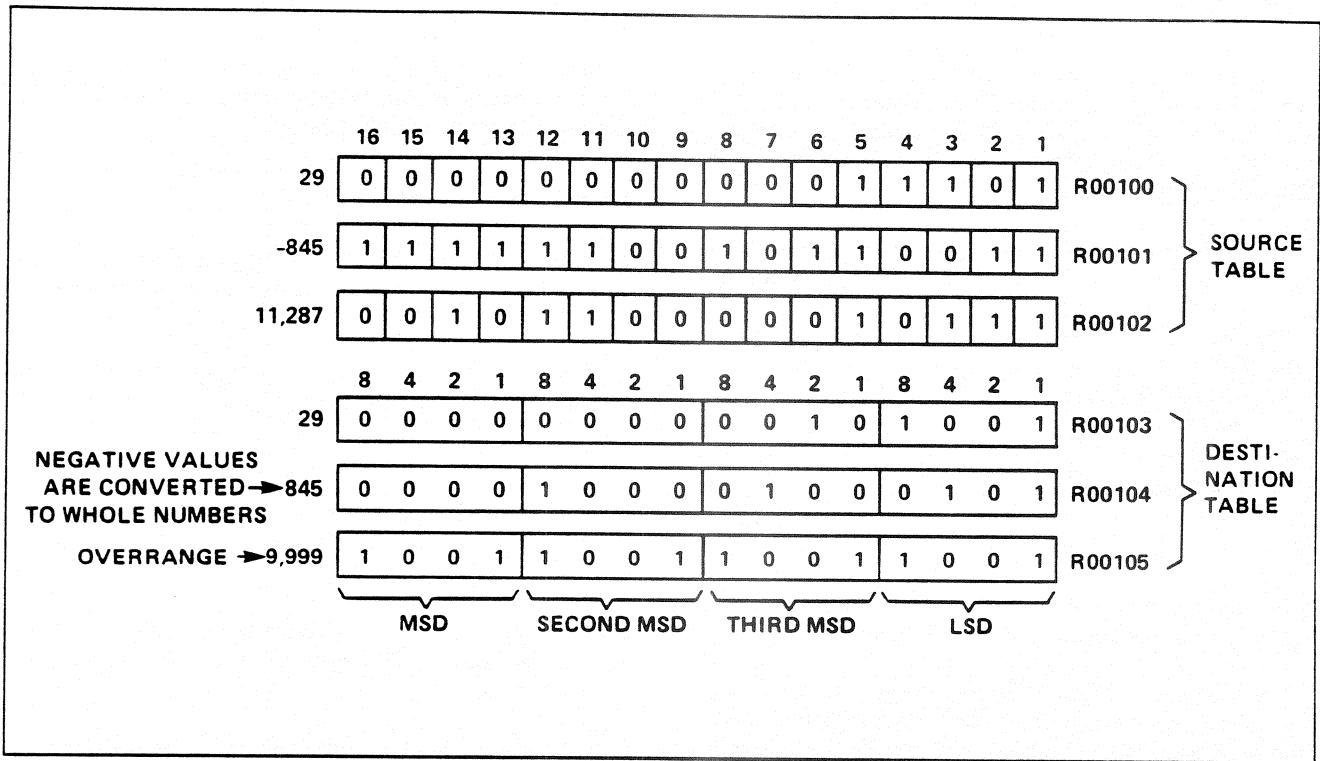

Figure BD-2. Binary-to-BCD Example
- Negative values, which are converted to positive values and stored in the Destination Register. The negative values must be in 2's complement form to be converted correctly. (See R00101 and R00104 in Figure BD-2.)
4 digits of BCD. The overrange output conducts, and the value 9,999 is held in the register. (See R00102 and R00105 in Figure BD-2.)